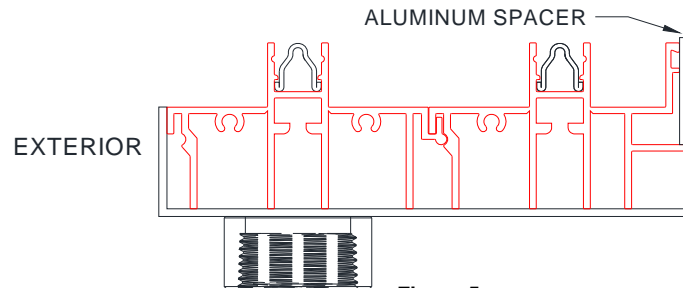

Figure 5:
1. Place sill in Sub-Sillpan as shown in Figure 5.